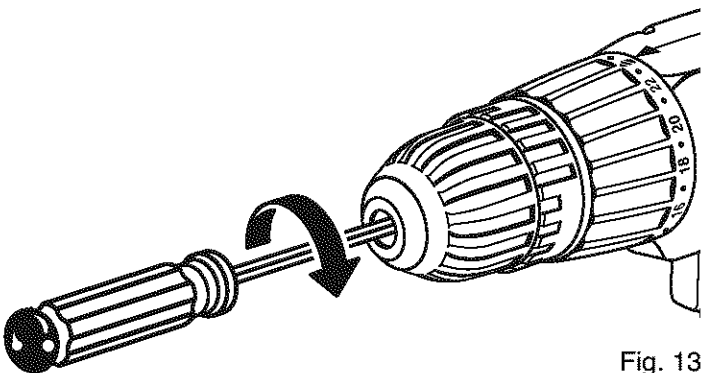

Fig. 13
- Open chuck jaws and remove hex key wrench. Remove the chuck screw by turning it in a clockwise direction. See Figure 13.